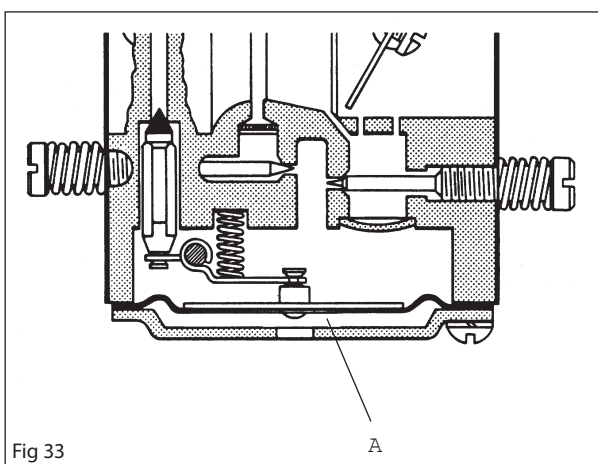

Fig 33
The needles and the fuel's control functions are located in the metering unit (A). Here the correct fuel amount is adjusted for the current speed and power output. See Figure 33.